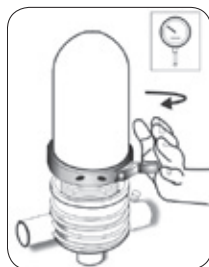

FIGURE 1
- Release the clamp and remove the cover (Figure 1).